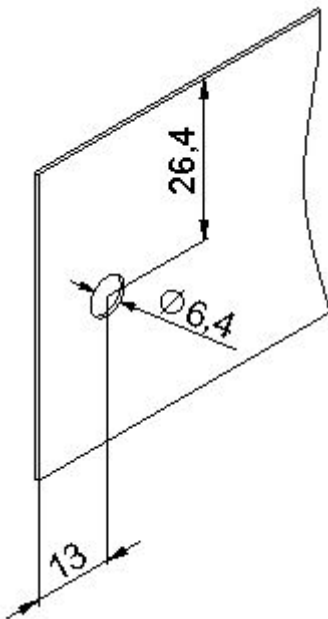
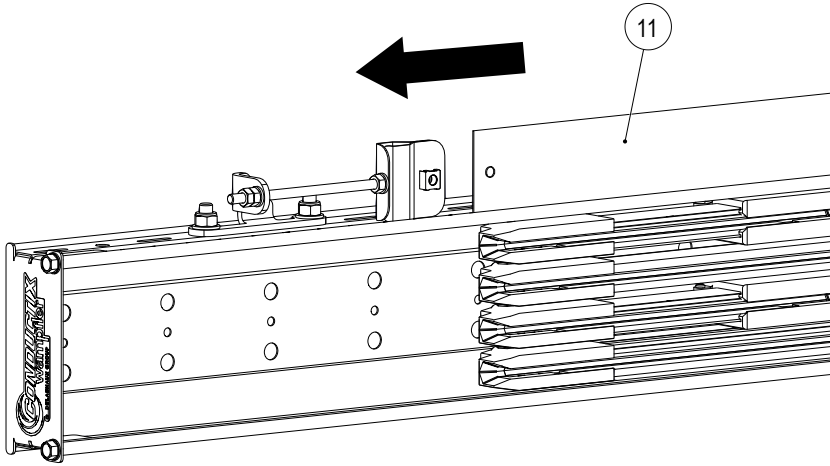
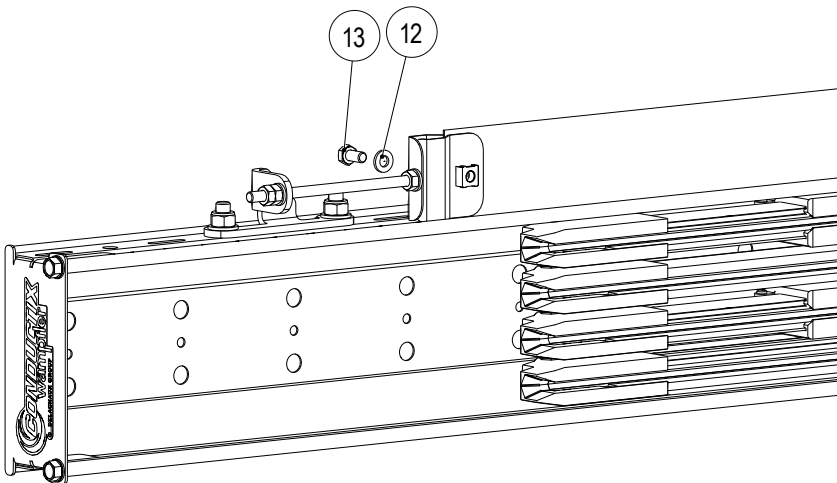

Fig. 47: Drilling pattern of positioning band profile
Fig. 48: Slide positioning band profile onto the clamping unit
Fig. 49: Install positioning band profile onto clamping unit
- Drill the positioning band profile where the position coding begins (see Fig. 47).
- Slide the positioning band profile (11) onto the fastening plate of the clamping unit and tighten the screw connections, consisting of the washer (12) and hexagon screw (13), with an open-end wrench SW 10 (see Fig. 48 and Fig. 49). The clamping unit must be readjusted, if necessary.
- f) Drill the second hole on the positioning band profile (see Fig. 47).
- Drill the positioning band profile at one end as shown in Fig. 47.
- Install the first end of the positioning band profile on the clamping unit (see Fig. 48 and Fig. 49) and clip it onto the band brackets.
- Drill the positioning band profile on the second clamping unit (see Fig. 47) and install it on the clamping unit of the fastening plate (see Fig. 48 and Fig. 49).